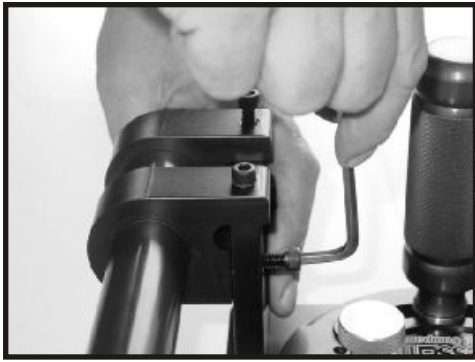

FIG. 6
6. You must now mount the miter gauge assembly to the bearing tube mounting brackets on the shaft. From the parts bag take four of the 1/4"-20 x 1" cap screws and attach the miter gauge assembly to the miter gauge upright bracket (Fig. 6).